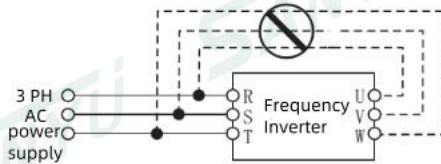

Figure 1-2
- It is strictly forbidden to connect the AC power supply to the inverter output terminals U, V, W, otherwise it will cause damage to the inverter, as shown in Figure 1-2.